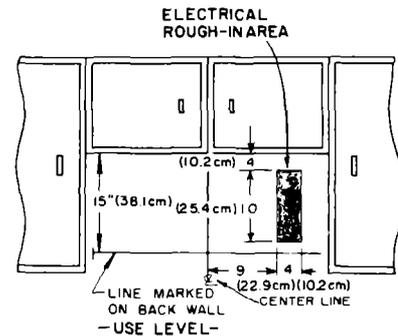
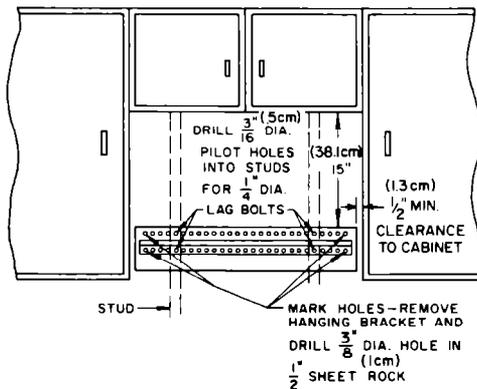

Figure 5
Figure 6
1. Select the area for installation, making sure you have an electrical supply available. See the shaded area (Figure 5). This is the area the electrical supply must enter.
3. Mark a line on the back wall 15" down from the upper cabinets centered between the side cabinets or the allotted space. Use a level. (Figure 5).
CAUTION: If two studs are not located on the line drawn (Figure 5), DO NOT attempt to install the hood.
4. Line the top of the hanging bracket up with the line drawn on the wall in Figure 5. Move the bracket to the left or right within the allotted 30" space until the center line of the 2 studs line up with 4 holes in the hanging bracket. Neither edge of the bracket should be closer than 1/2" to the side cabinets or the end of the 30" allotted space. (See Figure 6).
12 Rough wire the electrical supply to the area shown in Figure 5.